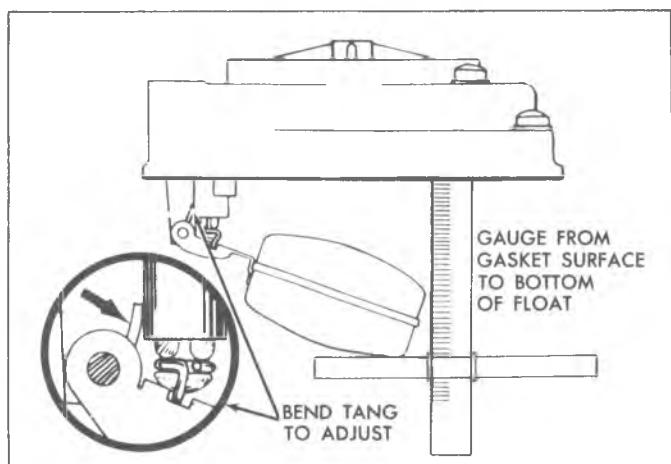

Fig. G8--Float Drop Adjustment (Brass)
- With the air horn assembly held upright and float suspended freely, measure dimension from air horn gasket to bottom of float pontoon at toe. To adjust, bend the float drop tang adjacent to the float needle seat to obtain specified dimension (fig. G8).